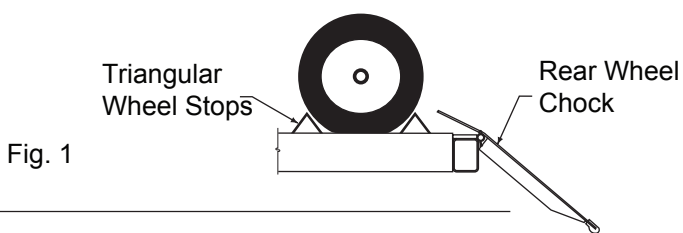

Fig. 1
3. Stop vehicle when it contacts the front wheel stops. At all times, be sure rear wheels are forward of the ramp/chocks and the ramp/chocks will clear tires when the lift is raised, Fig. 1. Driver and passengers must exit before raising.
4. Place wheel chocks on each side of one of the rear tires, Fig. 1.
14. Fully lower lift, remove the wheel chocks and check to be sure area is clear before removing vehicle from lift, Fig. 1.